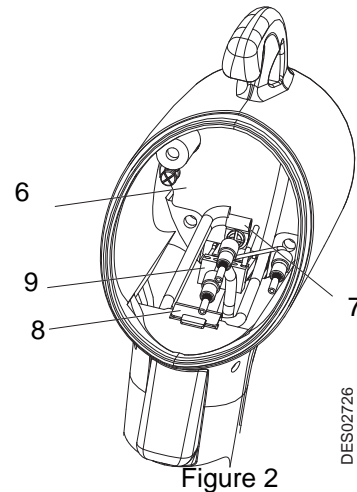

Figure 2
- **Stage 4:** Unscrew the strain relief (item 2) Unscrew the stuffing box (item 1) using a 19-mm flat wrench, unscrew the 3 screws (item 3) from the base plate (item 4) to separate it from the handle assembly and lower the base plate to unscrew the green/yellow wire fixing screw (item 5).
- **Stage 5:** Remove the box (Hall effect sensor - Item 8, figure 2) from its housing located behind the trigger in the upper part of the handle assembly using a flat screwdriver.
- **Stage 6:** Unscrew the end-of-handle-assembly board (item 6, figure 2) and remove it from the handle assembly.
- **Stage 7:** Unplug the black connector (item 9, figure 2).
- **Stage 8:** Unscrew the strain relief (item 7, figure 2) located on the shield of the electronic board.
- **Stage 2:** Insert the cable into the handle assembly, ensuring that it is correctly positioned (see figure 2). **Be careful not to pass the cable through the powder pipe housing.**
- **Stage 3:** Fix the strain relief (item 6, figure 2) (recovered) to the shield of the board, ensuring that it is correctly positioned.
- **Stage 5:** Fix the board (item 5, figure 2) in the bottom of the handle assembly using the two screws.
- **Stage 6:** Replace the sensor box (item 7, figure 2) in its housing.